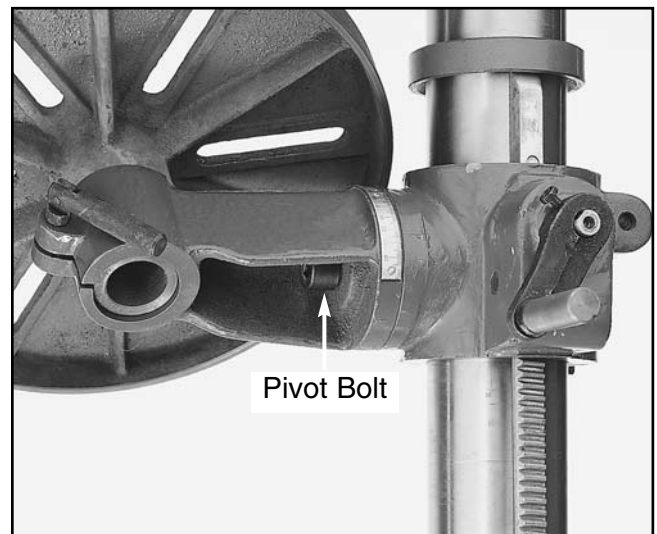

Figure 17.
4. To tilt the table, loosen the pivot bolt with the 12mm Allen wrench supplied. **Figure 17.** Tilt the table to the desired angle (up to 45°). Tighten the pivot bolt.